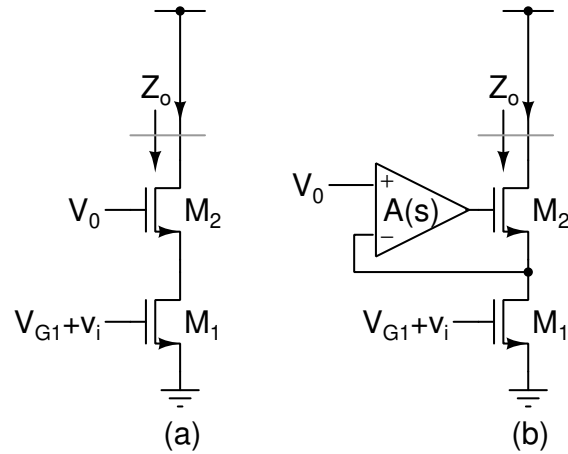

Figure 4.4: Problem 4.4. (a) Cascode, (b) Gain boosted cascode.
4.4. Fig. 4.4 shows the basic cascode amplifier and a gain-boosted cascode amplifier. Give the expressions for the output impedance Z_o in these cases. In case of the gain-boosted opamp, show the results with (a) $A(s) = \omega_u/s$ and (b) $A(s) = A_o/(1 + s/p_1)$, $p_1 = \omega_u/A_o$. Sketch the Bode magnitude and phase plots of Z_o , on the same set of axes for all 3 cases. What is the utility of the gain-boosted cascode?